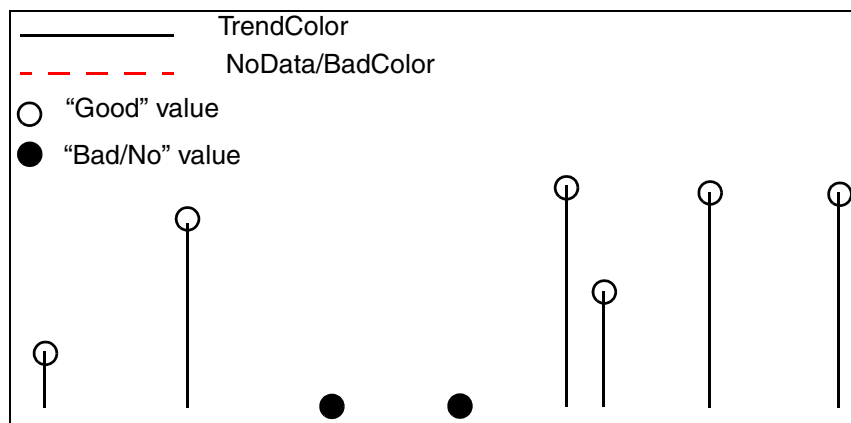

Figure 102. Curve Drawn in Poles or Curve_Bar Mode
- `curve_bar` & poles - These are the same because of backwards compatibility. Values are not connected, but shown as vertical poles drawn from zero to the current value, drawn with the specified line width, Figure 102.